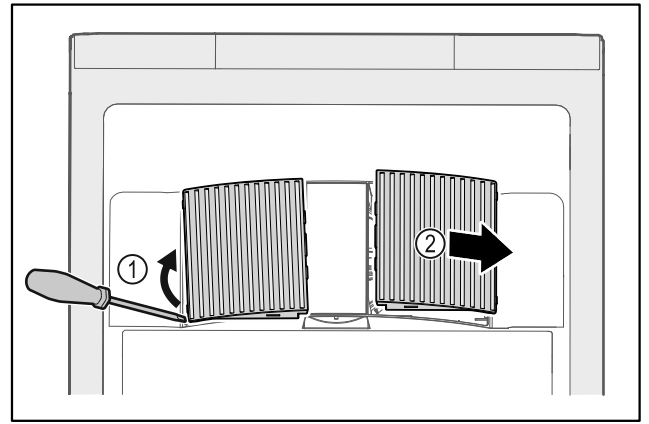

Fig. 147
- ▶ Carefully lever out fan covers from the side Fig. 147 (1) and remove towards the front Fig. 147 (2).